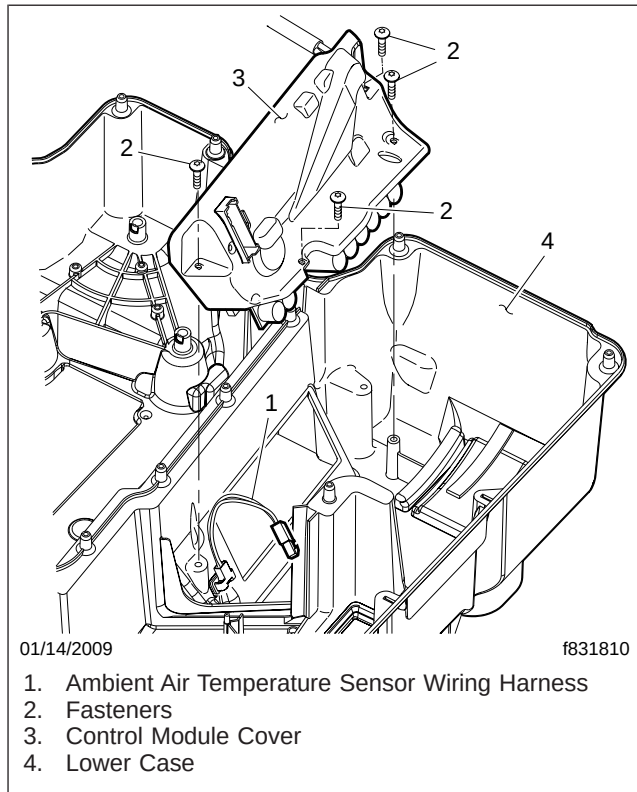

Fig. 4, Control Module Installation (pre-July 2011)
22. Remove the fasteners, and lift out the control module and cover assembly. See Fig. 4.